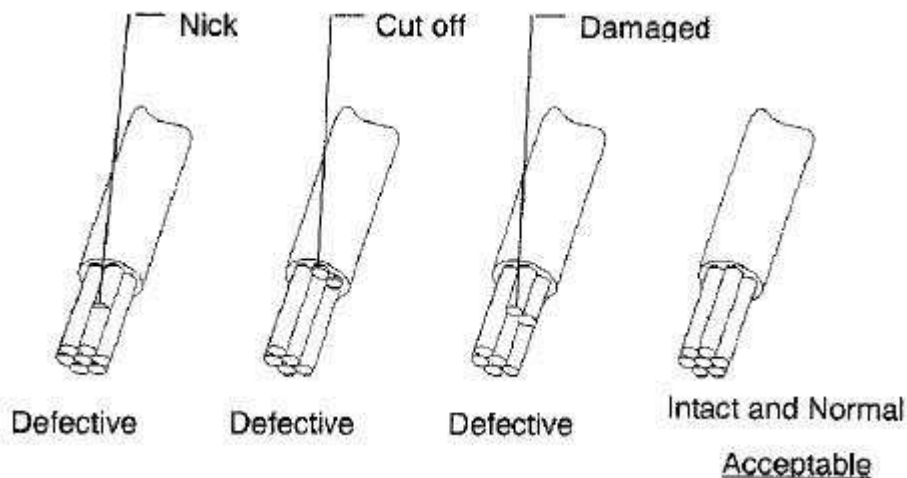

Fig. 7
- 4.1.1 Applicable Wire. See Fig.7 for applicable wire.